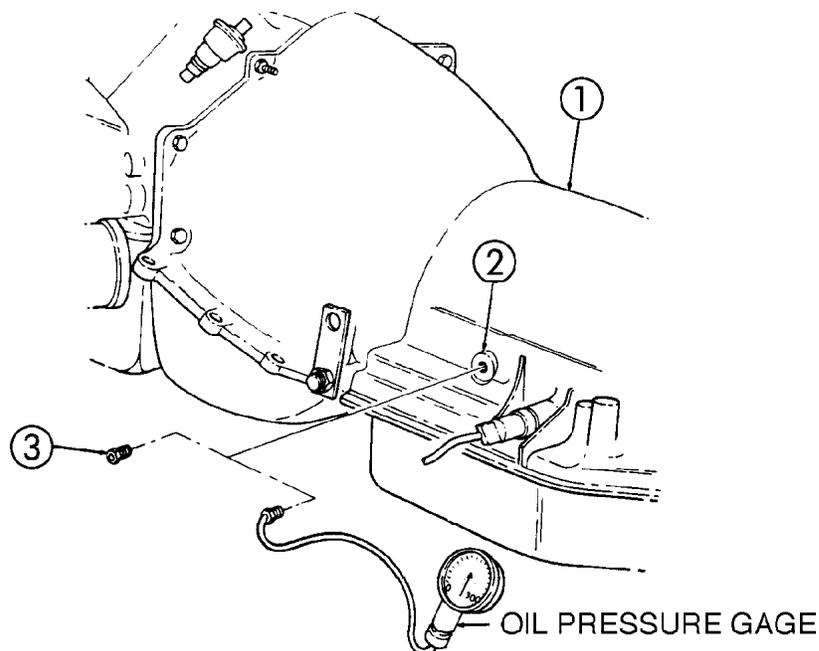

Figure 6-6. Transmission Oil Pressure Test Hook-up.
B. TRANSMISSION OIL PRESSURE TESTS (Figures 6-6 and 6-7)